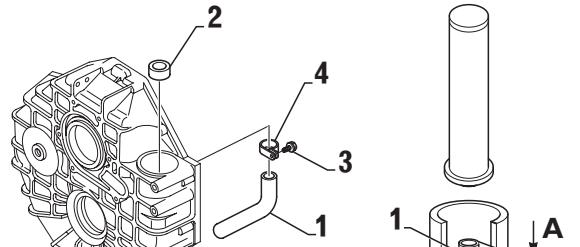

FIG. 4-2b
**ZF 25 A (from s/n 19395L) - ZF 25 (from s/n 17437L)****ZF 45 A - ZF 45-1 (Figs. 4-2b, 4-2c, 4-2d)**
- Position oil suction pipe (item 1, Fig. 4-2b) in the housing.
- Lightly tighten the screw (item 3, Fig. 4-2b).